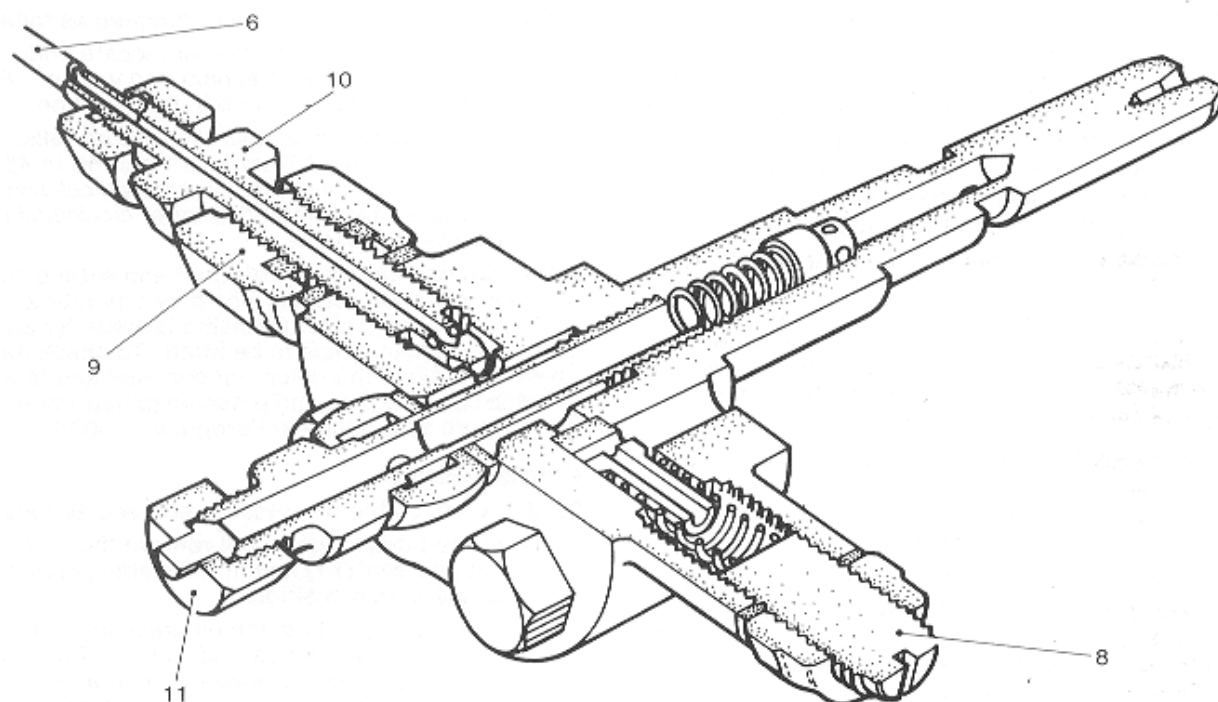

Figure 2.8 Plunger Oil Pump: Reducing and Pressure Relief Valves
**2.26** To set the oil feed to the valve rockers refer to Figure 2.8 and proceed as follows:
- (1) At the pump (Figure 2.8) remove the union nut and seal (11) and fit a suitable pressure gauge in this position.
- (2) If necessary, adjust the oil pressure relief valve to obtain 2.4 bar (35 lb/in.2). Turn the adjusting screw clockwise to increase pressure and counter-clockwise to decrease pressure.